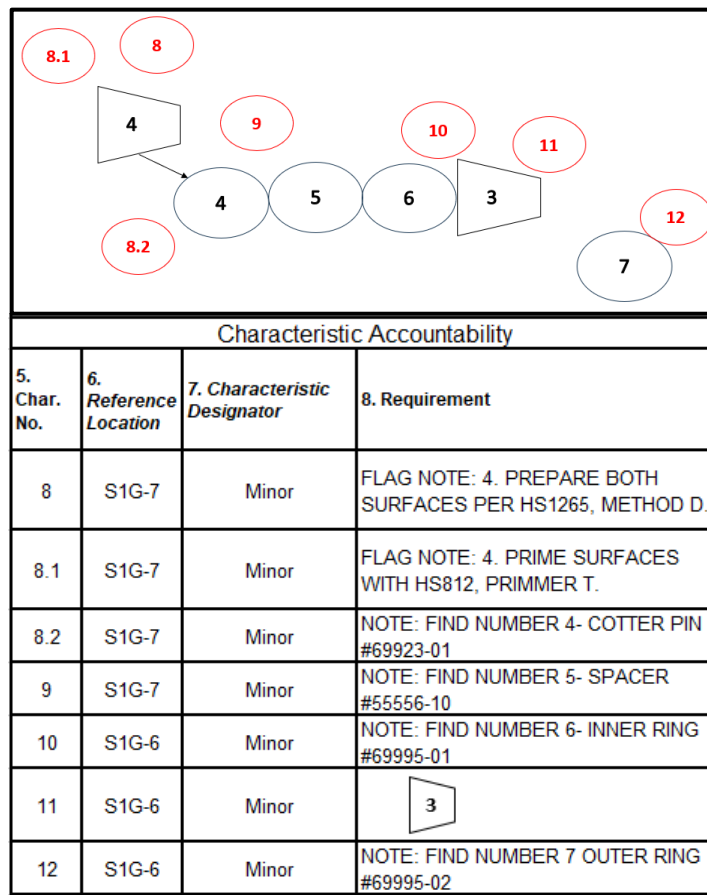

Figure 3
- l) Flag notes and find numbers shall be uniquely ballooned. This includes a unique characteristic number for each location within the notes *and* within the field of the drawing. Flag notes that appear in the notes section or UOS field need to be written out completely in Form 3, block 8. It is recommended that when note/find numbers are found within the drawing that it is written out completely in Form 3, block 8, however the flag note symbol may be listed in lieu of the full verbiage. See **Figure 3**.